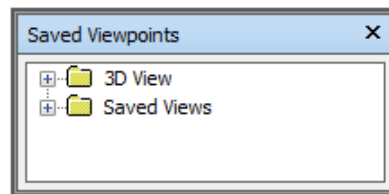

Figure 3-37 The Saved Viewpoints window
1. Choose the **Saved Viewpoints Dialog Launcher** button from the **Save, Load & Playback** panel of the **Viewpoint** tab; the **Saved Viewpoints** window is displayed, as shown in Figure 3-37.
1. Choose the **Saved Viewpoints Dialog Launcher** button from the **Save, Load & Playback** panel of the **Viewpoint** tab; the **Saved Viewpoints** window is displayed, refer to Figure 3-37.